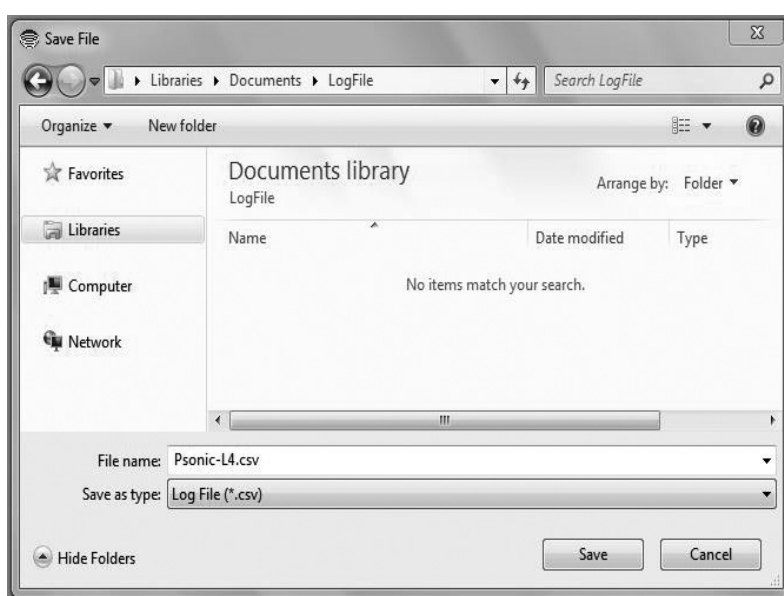

Fig. 3-24
- (5) To hide the chart, click the  button on the tool bar or "Chart and Recording" - "Chart" - "Percent Flow" from the menu.
- (6) Similarly, by clicking the  button on the tool bar or "Chart and Recording" - "Chart" - "Flow Rate" from the menu, instantaneous flow rate can be shown or hidden. If you click the  button on the tool bar or "Chart and Recording" - "Chart" - "Flow Velocity" from the menu, the flow velocity chart can be shown or hidden as well. The gain value (passes 1 to 4) and Reynolds number are operated in a same way.
- (7) If you click the  button on the tool bar or "Chart and Recording" - "Recording" - "Start" from the menu, the following dialog box (Fig. 3-24) will be displayed. Select the disk and folder to create a file, enter a file name, and click "Save (S)" button. A CSV file is created and data logging begins.